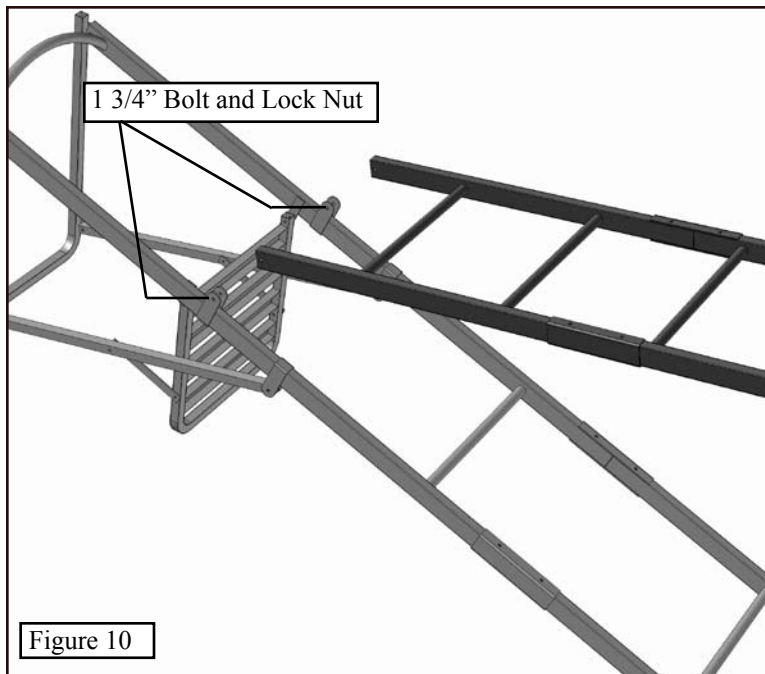

Figure 10
Step 4. Position the Step Assembly as shown in **Figure 10**.